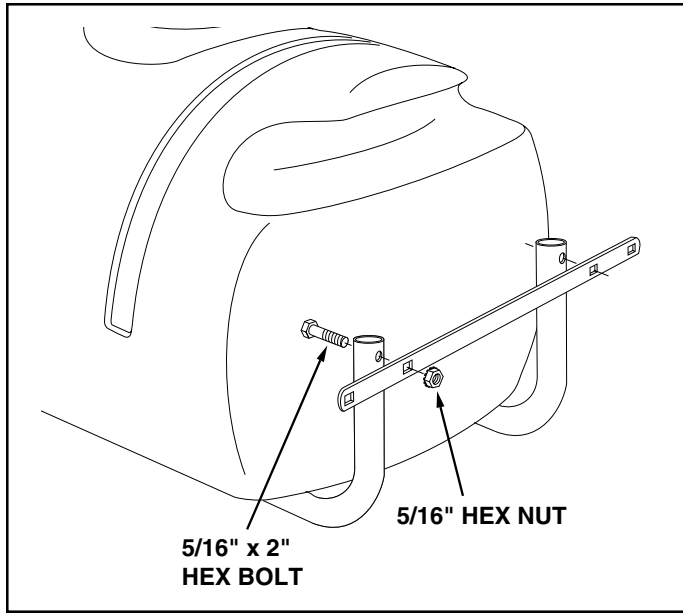

FIGURE 5 **REAR VIEW**
10. Assemble the boom mount bracket to the rear of the frame tubes using two 5/16" x 2" hex bolts and 5/16" hex nuts. See figure 5.